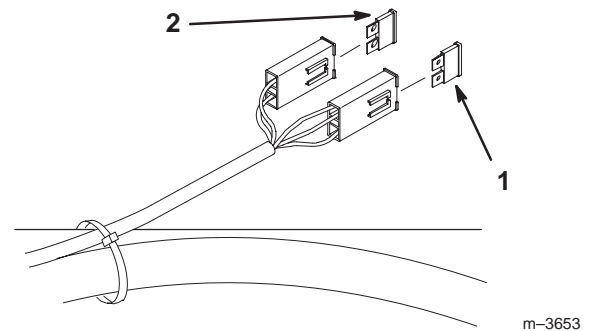

Figure 58
1. Raise the seat to gain access to fuse holder (Fig. 58).
2. To replace fuses pull out on the fuse to remove it (Fig. 58).